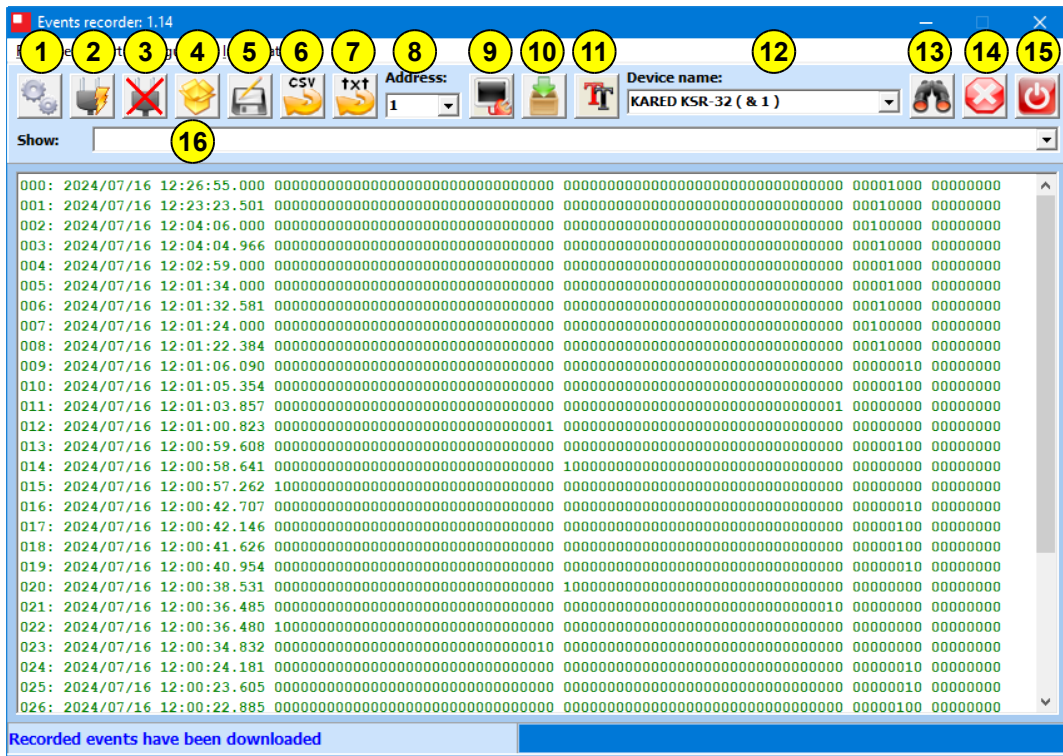
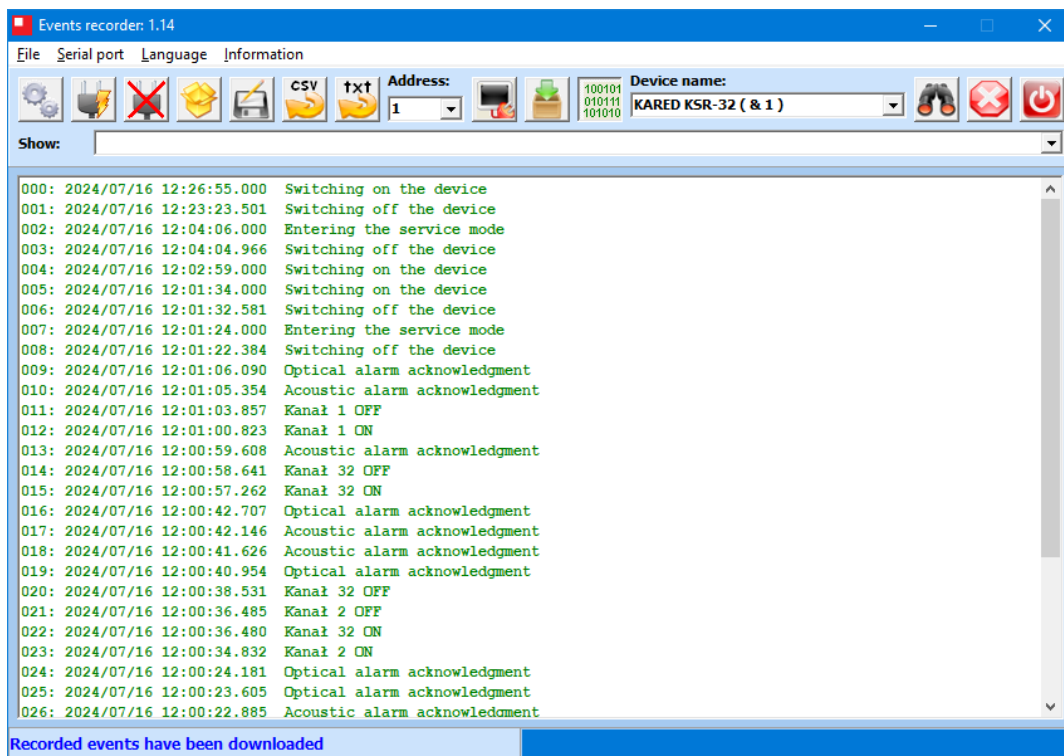

Fig. 9. Downloading registered events
Fig. 10. Displaying registered events
After running the software, a screen should appear as shown in Fig. 9 (not all icons will be immediately visible).
You can use button (11) to switch between the presentation of the downloaded data in a coded form (as in Fig. 9) or in descriptive form – Fig. 10.